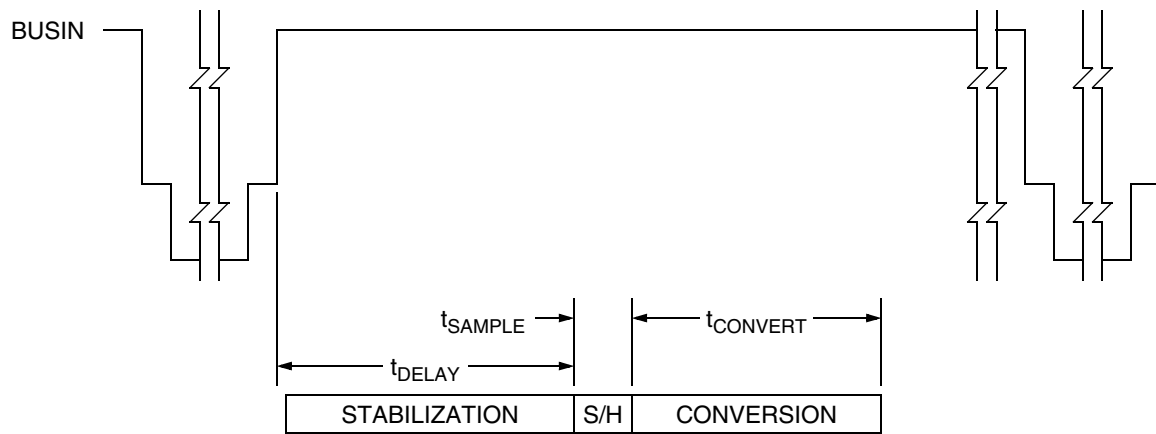

Figure 5-4. A-to-D Conversion Timing
| 121 | Analog to digital converter (see Figure 5-4) Sample time | t_{SAMPLE} | 4.28 | 4.5 | 4.73 | μs | (8) |